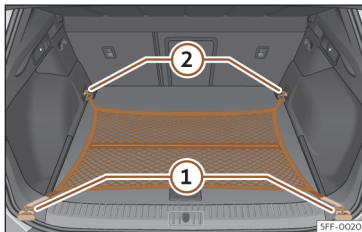

Fig. 118 In the luggage compartment: net bag hooked up at floor level.
- Secure the net hooks to the fastening rings ① and ②»» Fig. 118 »» ⚠. The bag zip should be facing upwards.